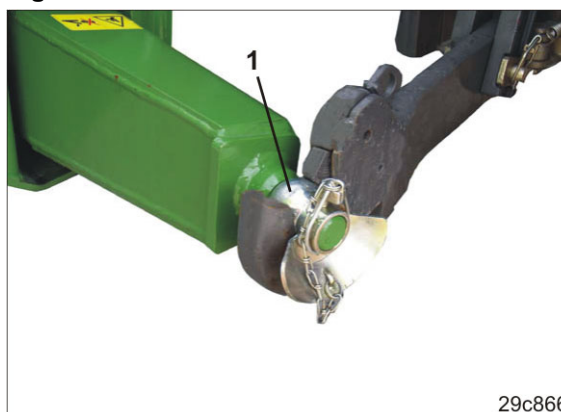

Fig. 107
2. Secure a ball (Fig. 107/1) with trap bowl above the lower link pin (cat. III) of the draw bar and secure it with a clip pin.